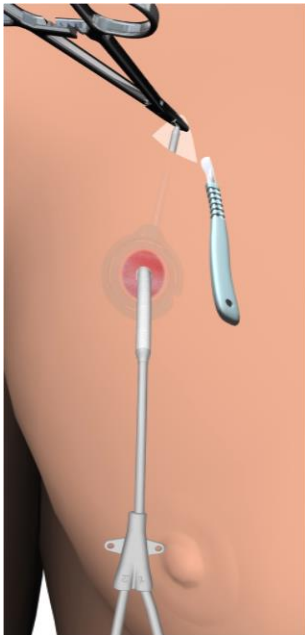

Figure 4: Overview of Catheter Removal when catheter cannot be removed by blunt dissection.
4. If it is not possible to remove the catheter following blunt dissection, make a small incision distal to the exit site **as per Figure 4**. Clamp the catheter and cut the catheter proximal to the clamp. Remove the distal portion of the catheter from the venotomy and discard. Dissect around the catheter and under the DISC, and gently remove the proximal end of the catheter.